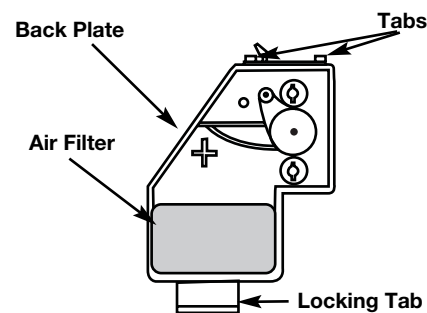

Fig. 35
7. Reinstall the air filter cover. Position the slots on the top of the air filter cover onto the tabs at the top of the back plate (Fig. 35).